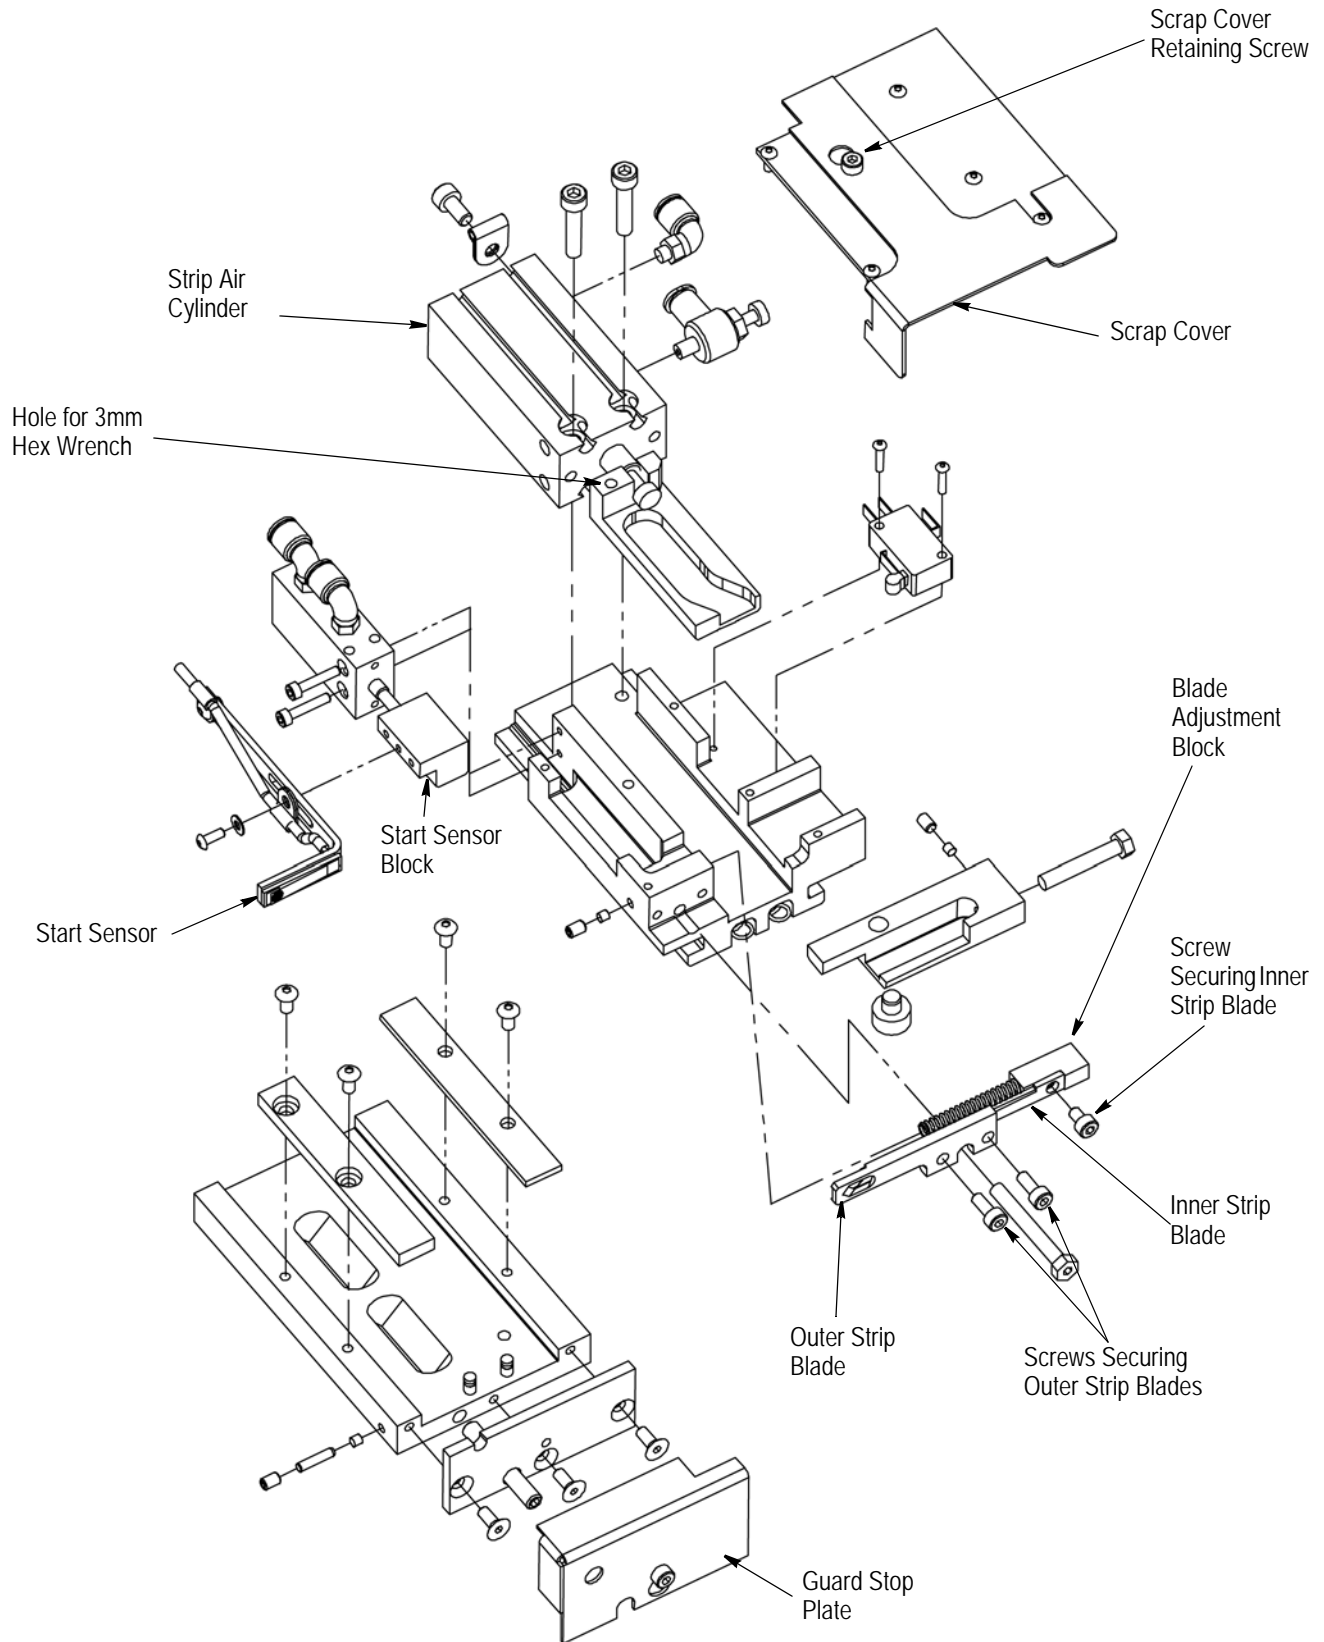

Figure 17
9.1. Strip Blade Replacement (Figure 17)
9.2. Start Sensor Assembly Replacement (Figure 17)